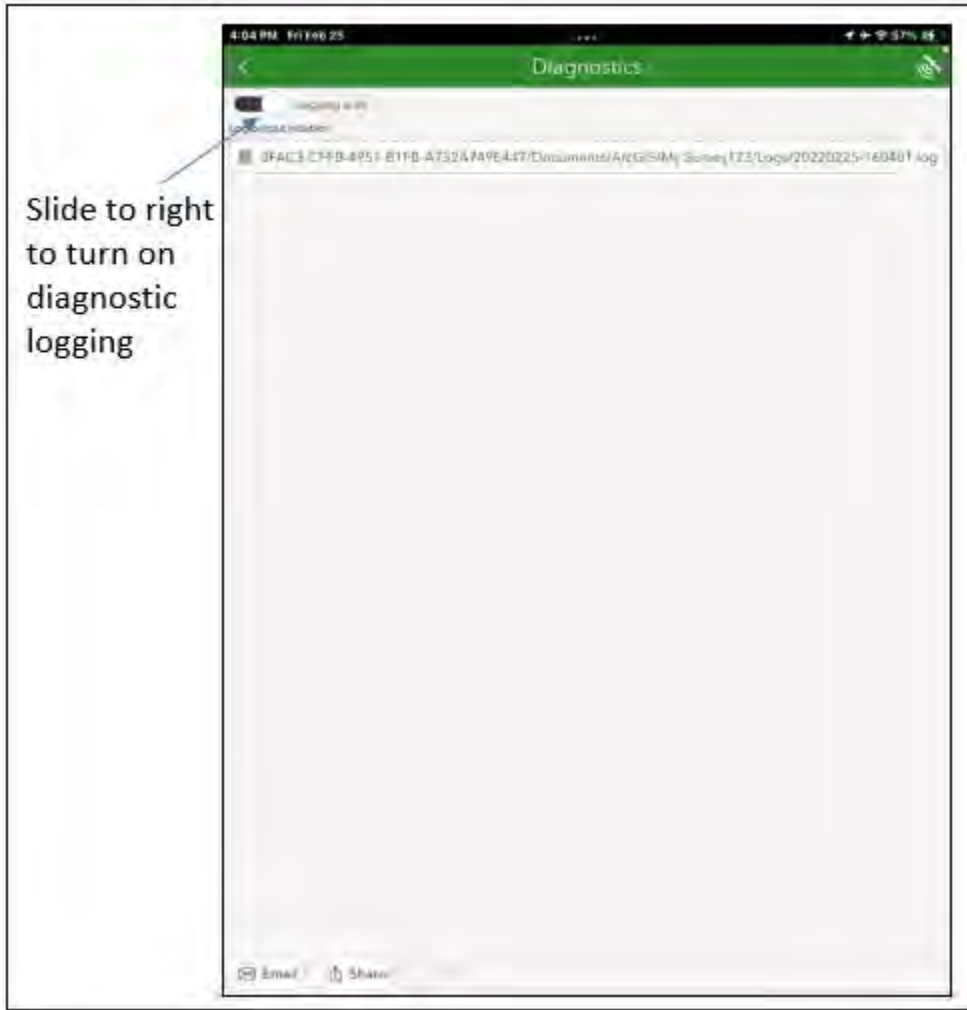

Figure 7-15
- Record Diagnostic Logging:** If you experience a recurring issue with the app crashing or failing to sync data, it is helpful to enable diagnostic error logging so that ESRI technical support specialists can help identify and correct the issue. To do this, start on the “My Survey123” homepage and tap in the upper right corner of the page like you would if you were going to download new surveys (Figure 7-3). Tap “Settings” in the side bar that opens up, then tap “Diagnostics.” Tap the slider at the top so that it moves to the right and indicates “Logging is on” (Figure 7-15).